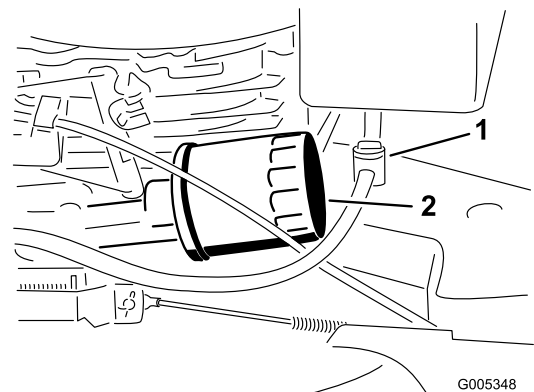

Figure 23
3. Close the fuel valve (Figure 23).